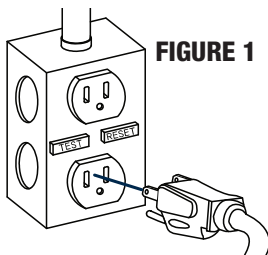

FIGURE 1
1. Connect the plug into a 115 V AC grounded outlet. The use of a GFCI is strongly recommended. See figure 1.